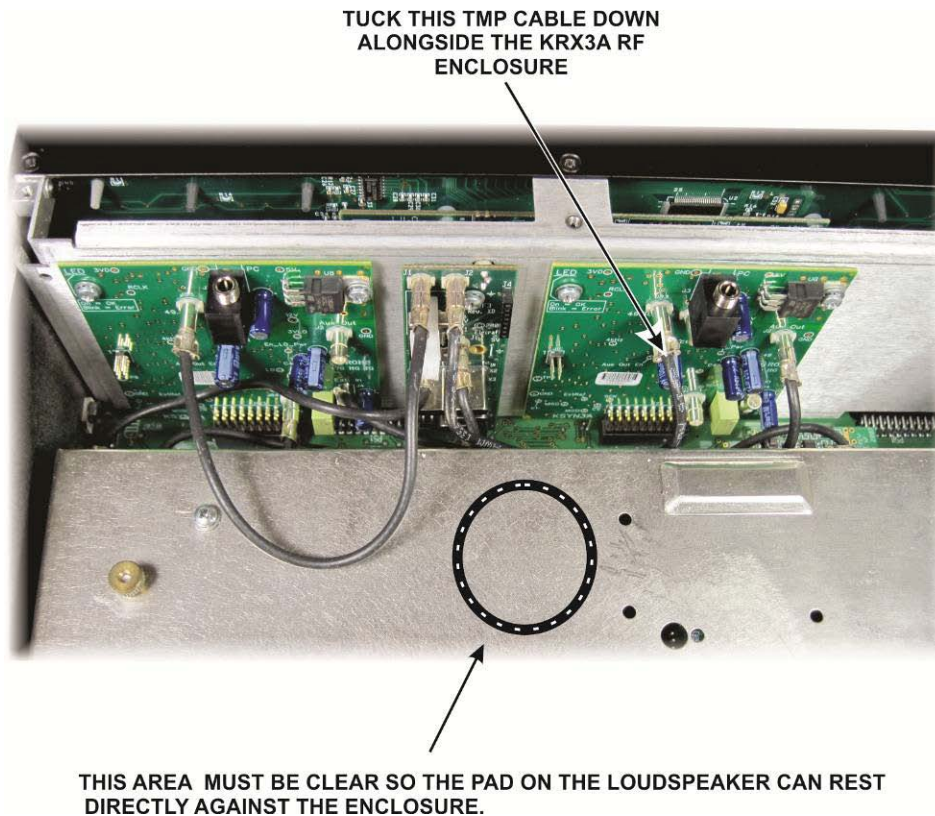

Figure 51. Positioning TMP Cable to Avoid Interference with the Speaker Pad.
- Be sure the TMP cable between the KXREF3 and Main KSYN3A board does not lie on the area where the speaker pad will press against the KRX3 top cover (see Figure 51). Tuck the cable down alongside the KRX3A enclosure as shown.